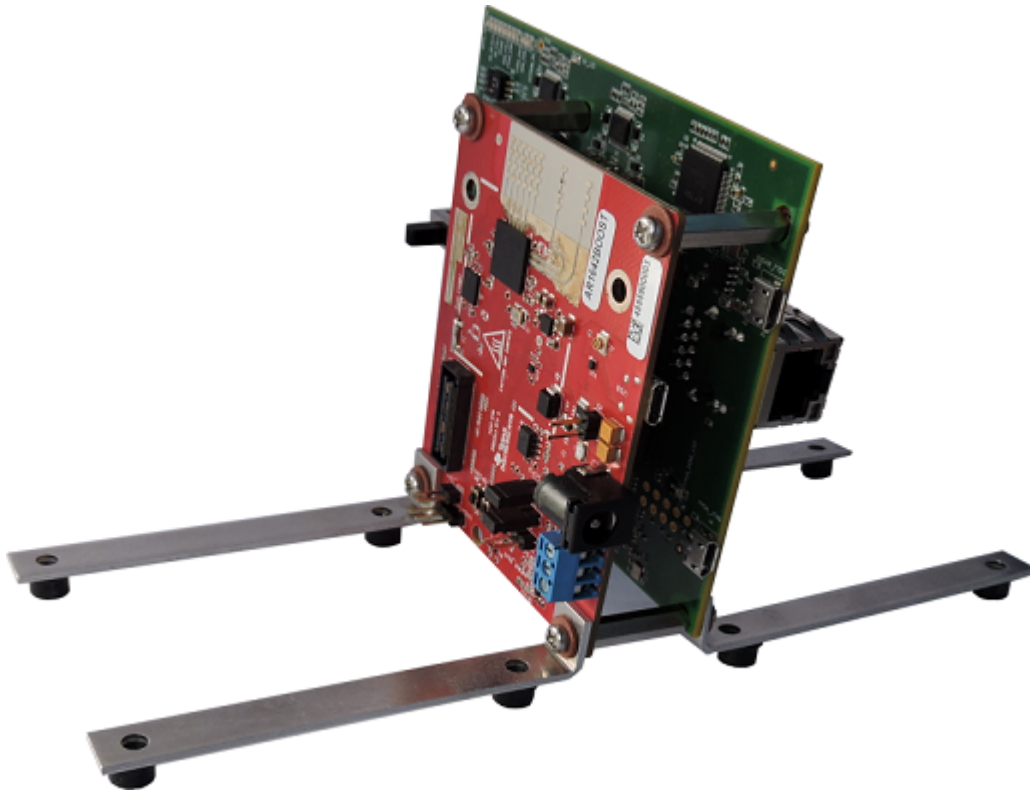

Figure 6. Connect Boards
3. Connect the DCA1000EVM with the xWR1xxx EVM, as shown in Figure 6.